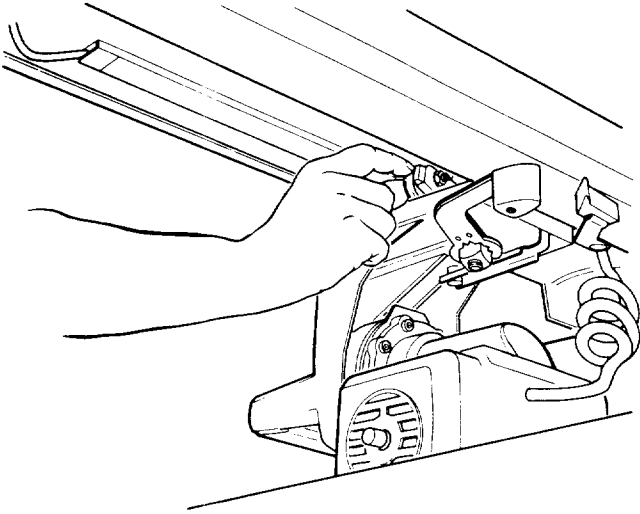

Fig. 147 - Front Carriage Bearings
3. Hold the *front carriage bearing* with your fingers as tight as possible and pull *carriage* forward at the same time. If you can prevent the *bearing* from turning an adjustment is required. (Figure 147)